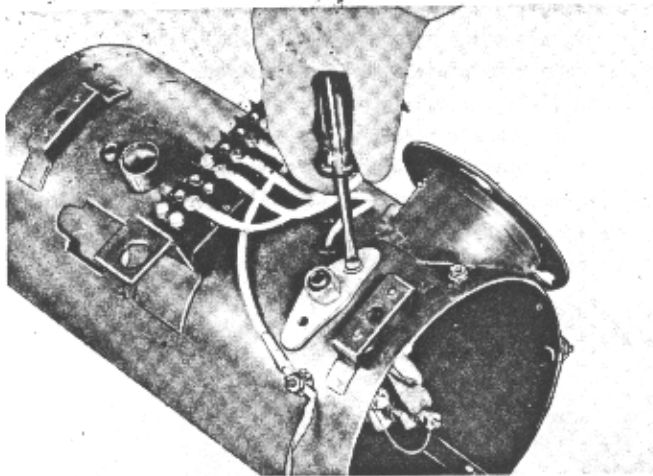
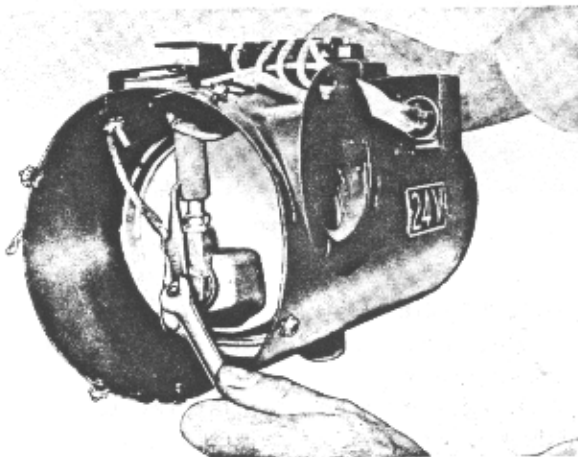

Figure 38
Figure 39
1. Remove the screws from the standpipe tapping plate and remove the slotted plate from inside the heater case (Figure 38), also disconnect resistor lead from igniter (Figure 39).